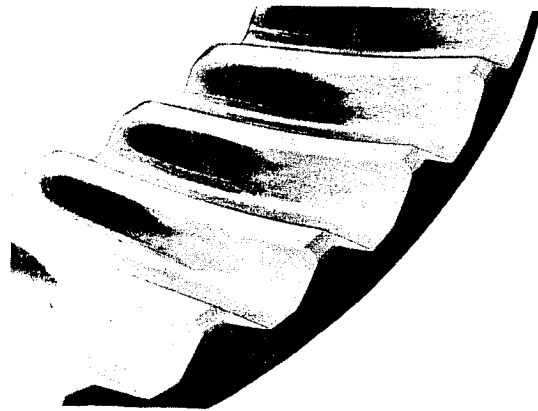
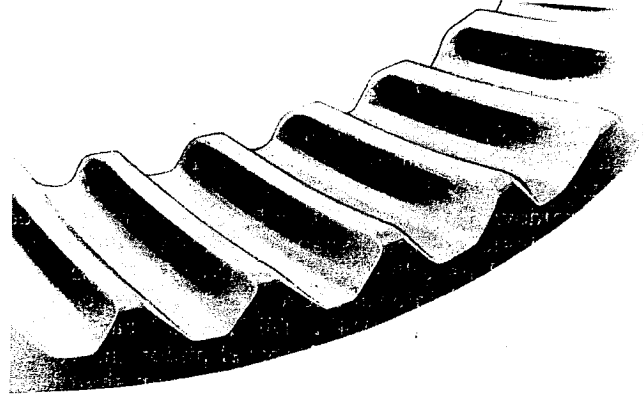

Fig. 55 -- Satisfactory Tooth Contact - No Load (T-31450)
Fig. 56 -- Satisfactory Tooth Contact - Gears Loaded (T-31449)
- d. Check tooth contact pattern. Paint approximately 12 bevel gear teeth with marking compound or bluing and turn transmission pinion; tooth contact pattern will show plainly on bevel gear teeth. Area of contact (no load) must favor toe of gear tooth, extend approximately 1/2 of tooth length toward heel, and be centered between top and bottom of tooth, Fig. 55; area of contact when gears are loaded should increase in length as shown in Fig. 56.